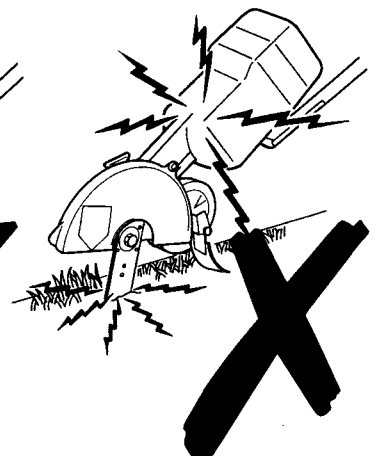

FIG 16
9. If blade jams or stops in the ground (Fig. 16), lower handles or pull back unit and recommence. Motor should be at full speed under load.